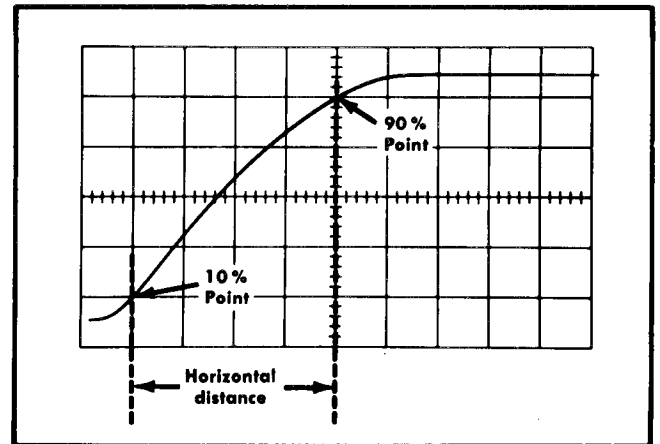

Fig. 2-18. Measuring risetime.
example, with a five-division display as shown in Fig. 2-18, the 10% point is 0.5 division up from the start of the rising portion.
**Example.** Assume that the horizontal distance between the 10% and 90% points is four divisions (see Fig. 2-18) and the TIME/DIV switch is set to 1  $\mu\text{s}$  with the MAG switch set to X10.